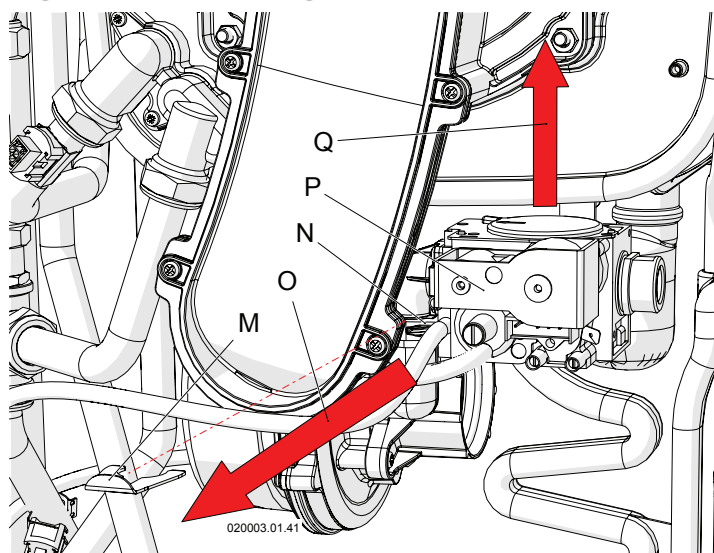

Figure 6-4 – Removing the gas valve
- 8.- Remove clamp spring "M" from seat "N" releasing valve "P" (see Figure 6-4);
- 11.- Refit the gas valve (see Figure 6-4, detail "P"), taking care to reposition spring "M";